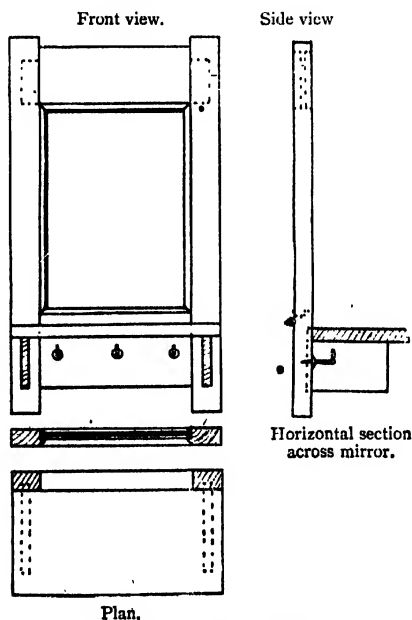

FIG. 97.—BRUSH-BRACKET AND MIRROR-FRAME.
*Drawing.*—The principles of construction involved in making the bracket are shown in Figs. 97 to 98.